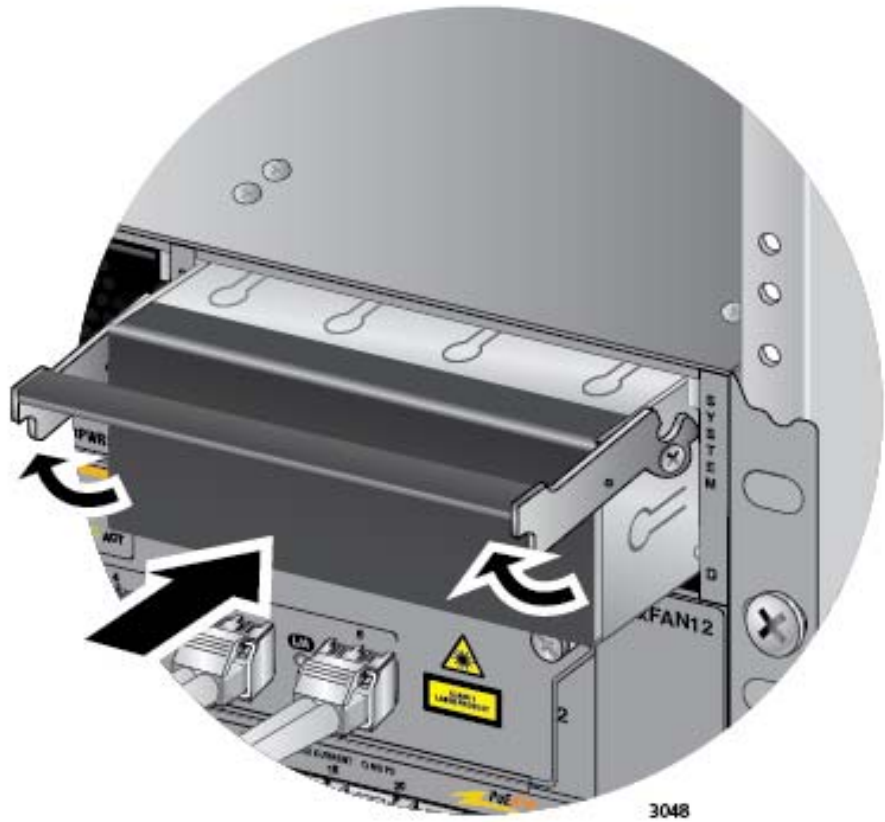

Figure 156. Installing a Blank Power Supply Slot Cover
5. Place the locking handle on the slot cover in the up position and slide the cover into the empty power supply slot, as shown in Figure 156 on page 256.